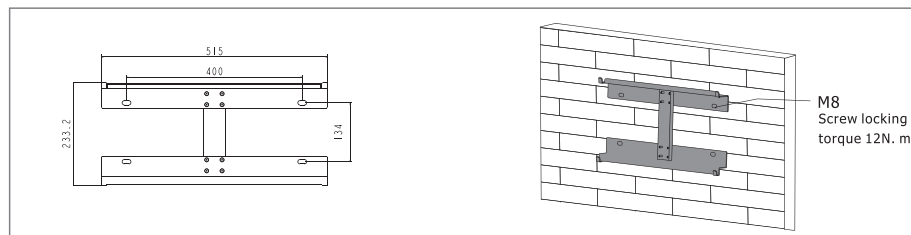

Figure 3.4-1 Install the inverter hanging plate
Step 1. Please use the mounting bracket as a template to drill 4 holes in the right positions (10mm in diameter, and 80mm in depth). Use M8 expansion bolts in accessory box and fix the mounting bracket with a 12mm drill bracket onto the wall tightly. The installation of inverter support is shown in Figure 3.4-1.